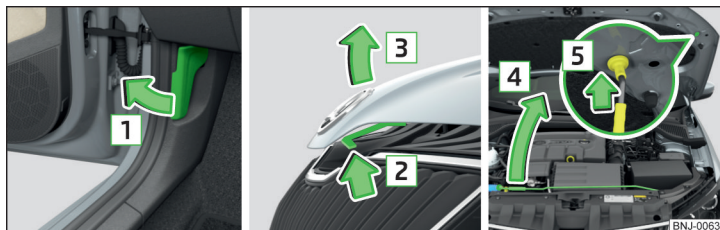

Fig. 165 Opening the bonnet
- Pull the release lever under the dash panel in the direction of the arrow **1** » Fig. 165.
Never open the bonnet by the locking lever » Fig. 165.